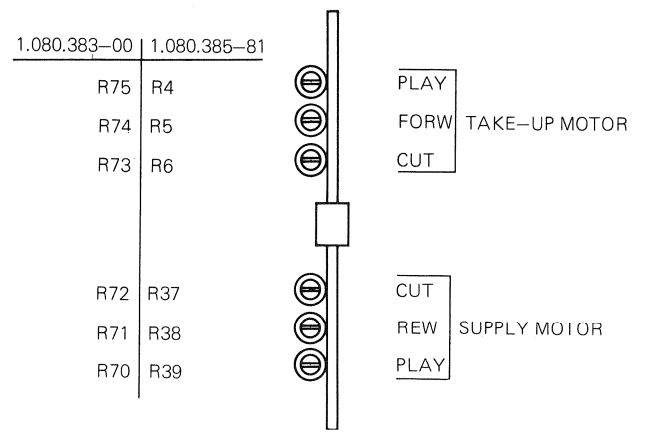

Fig. 2.5.-3
1. Tape tension adjustment, SUPPLY motor: Place the empty NAB reel with 2 to 3m of tape on the left turntable. Remove Pinch roller ① (unscrew cover nut. Caution: left-hand thread). Thread the tape in accordance with fig. 2.5.-2 and attach the spring balance (0...500g) to the end of the tape (loop).